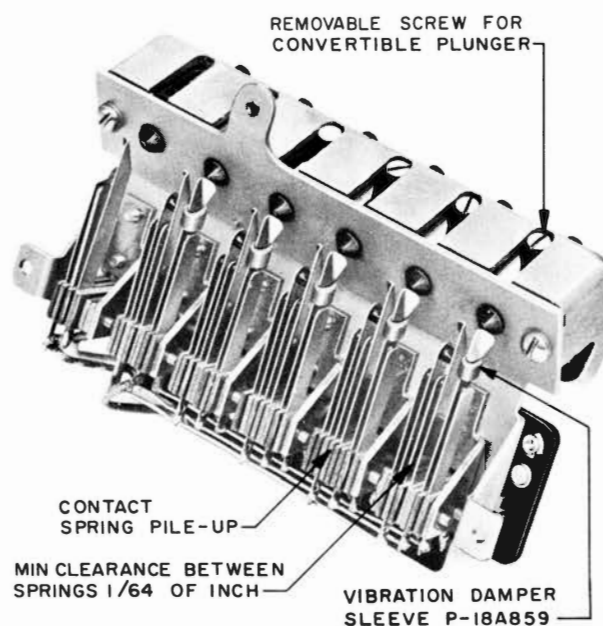

Fig. 9 - 589-Type Key, Bottom View
- Replacing loose or missing damper studs with P-18A859 vibration damper sleeves (Fig. 9).
6.02 Contact follow and separation is obtained by using a 363 tool at a point adjacent to contact spring pile-up (Fig. 9). When adjusting springs:
- There shall be a minimum spring clearance of 1/64 inch between contact springs and those parts of the key which do not make contact with springs. (See Fig. 9.)